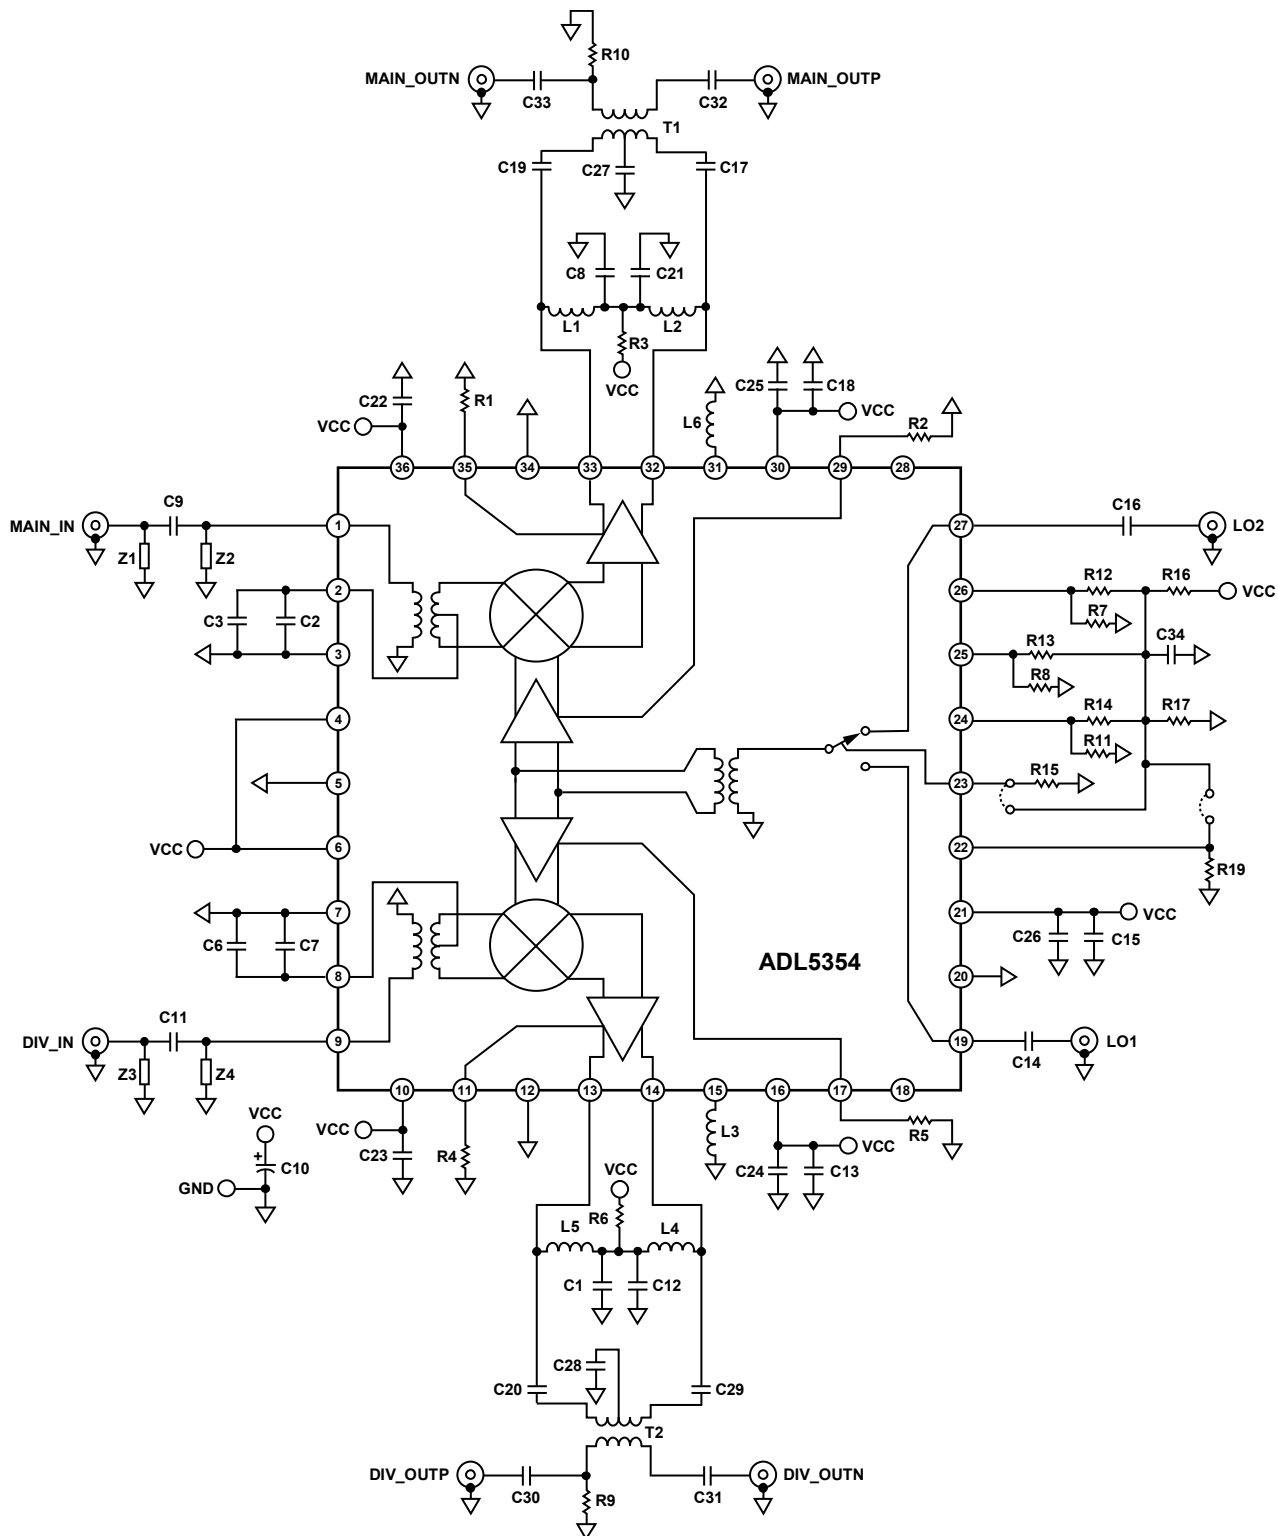

Figure 52. Typical Application Circuit
The ADL5354 mixer is designed to downconvert radio frequencies (RF) primarily between 2200 MHz and 2700 MHz to lower intermediate frequencies (IF) between 30 MHz and 450 MHz. Figure 52 depicts the basic connections of the mixer. It is recommended to ac couple the RF and LO input ports to prevent nonzero dc voltages from damaging the RF balun or LO input circuit. The RFIN matching network consists of a series 1.5 pF capacitor and a shunt 4.3 nH inductor to provide the optimized RF input return loss for the desired frequency band.
need for a transformer. This results in a voltage conversion gain that is approximately 6 dB higher than the power conversion gain, as shown in Table 3. When a 50  $\Omega$  output impedance is needed, use a 4:1 impedance transformer, as shown in Figure 52.